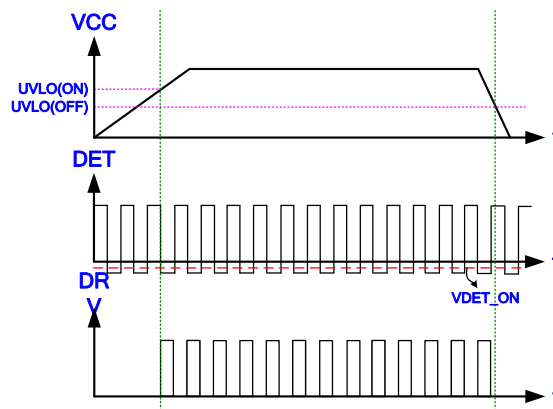

Fig. 14
An UVLO comparator is implemented in it to detect the voltage on the VCC pin. It will assure the supply voltage enough to turn on the LD8523/P controllers and further to drive the synchronous rectifier. As shown in Fig. 14, the UVLO(ON) and UVLO(OFF) are respective 3.0V and 2.8V.